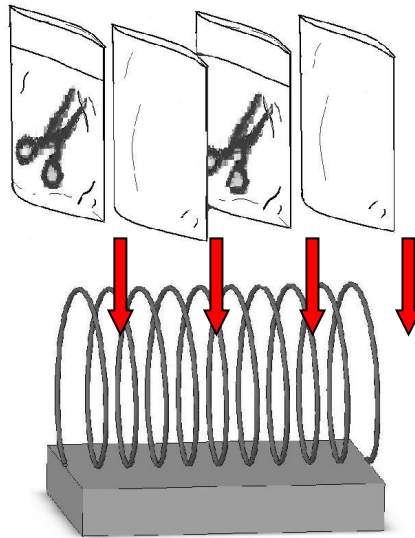
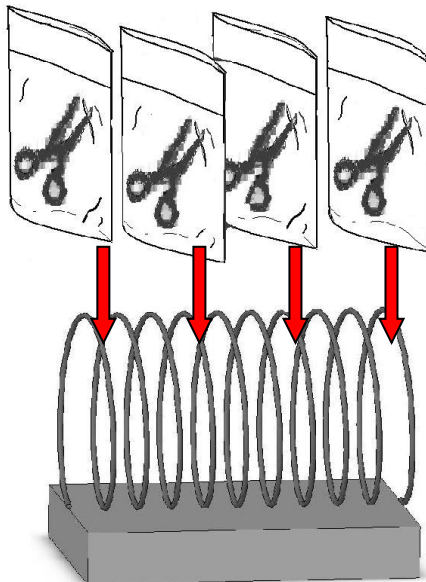

Figure 22
Figure 23
**Warning:** We suggest using Spring Holder for items with sterilizing pouches to assure sterilization result. Follow Figure 22 or Figure 23 to place